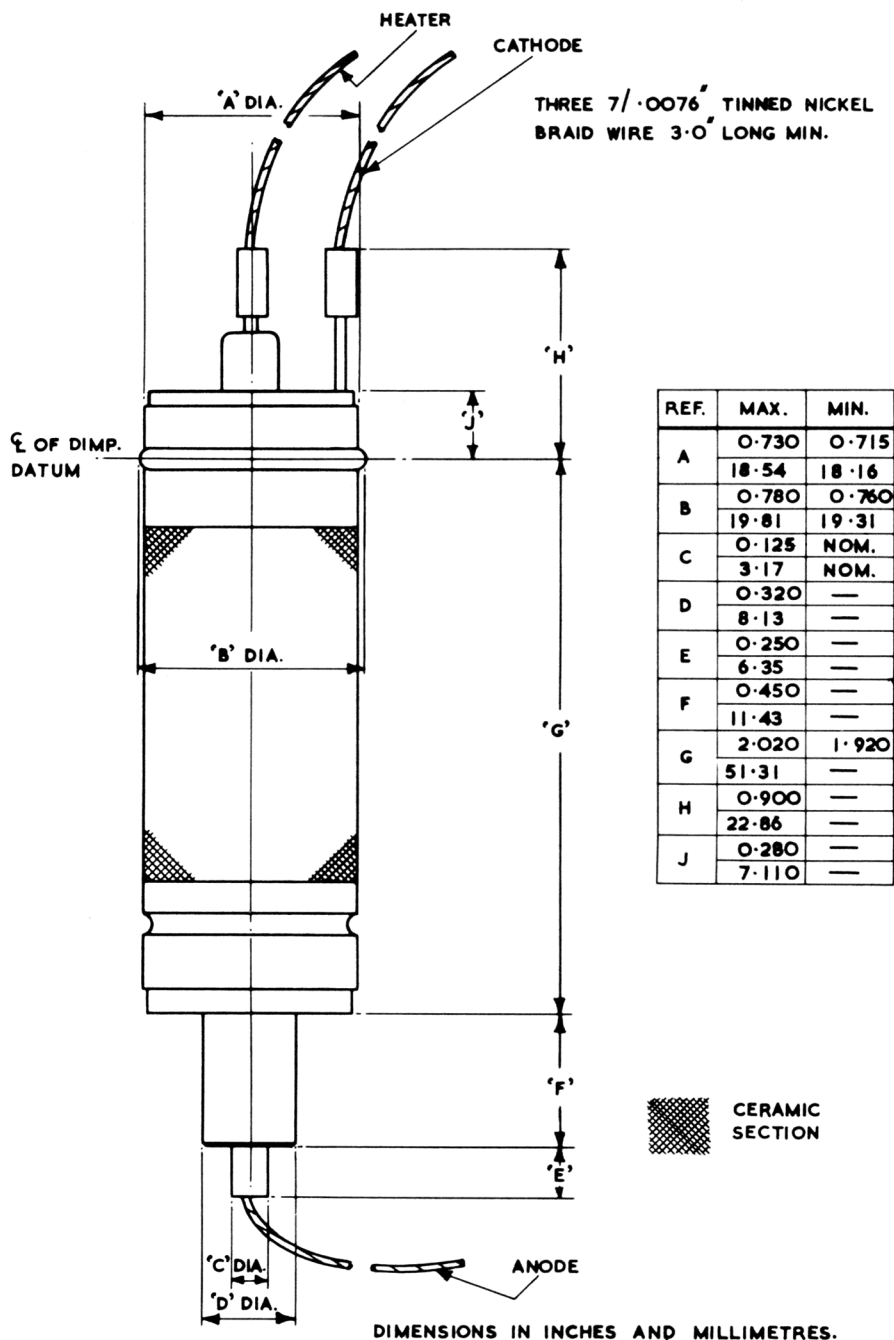

FIG 2
1. The valve shall be tested in the circuit as in Figure 2, which includes a sensitive trip circuit RL, C, MR, R. Resistance R shall be adjusted so that RL is energised when the reverse current flow exceeds 150 mA. Suitable values are:-
4. At the discretion of the Approving Authority these tests may be carried out in the alternative "Simulated inverse diode operation" test rig in Figure 2, with P.I.V. = 14kV. "Normal" diode current = 4 Amps peak, "Fault" diode current = 8 Amps peak. PRF = 1000 c/s, with "Fault" condition switched in for two seconds every thirty minutes.